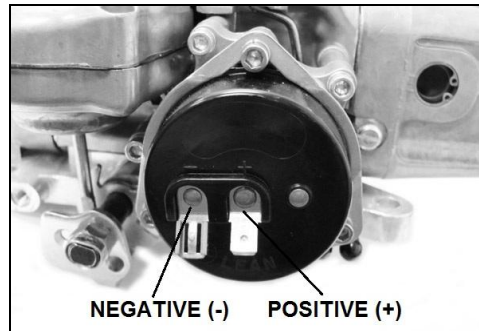

Figure 14
1. Run a wire from a switched +12V source to the connection on the pod cover marked with a (+). Run a second wire from the terminal marked (-) to a good ground. See Figure 14.